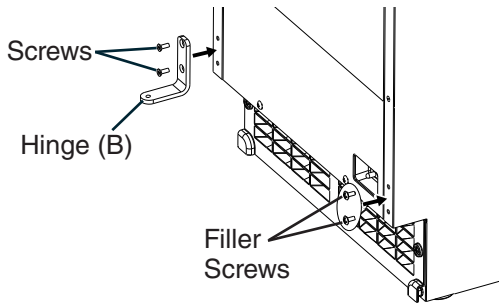

Fig. 13
d) Remove hinge (B) from the right side of the appliance and the 2 filler screws from the left side. Attach the 2 filler screws to the right side and attach hinge (B) to the left side. See Fig. 13.